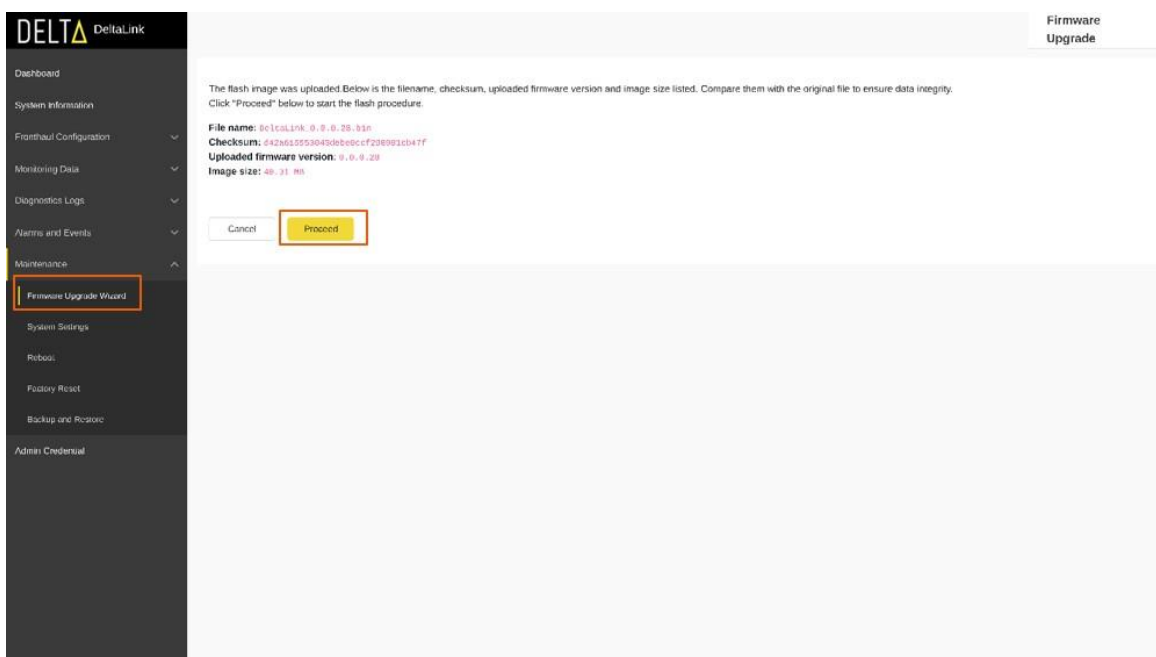

Figure 53 Firmware Upgrade Wizard - 2
- d) After the image has been uploaded, select “Proceed” to complete the image upgrade as shown in the Figure 53 below. The deltaLINK™ router will now reboot with the uploaded image.